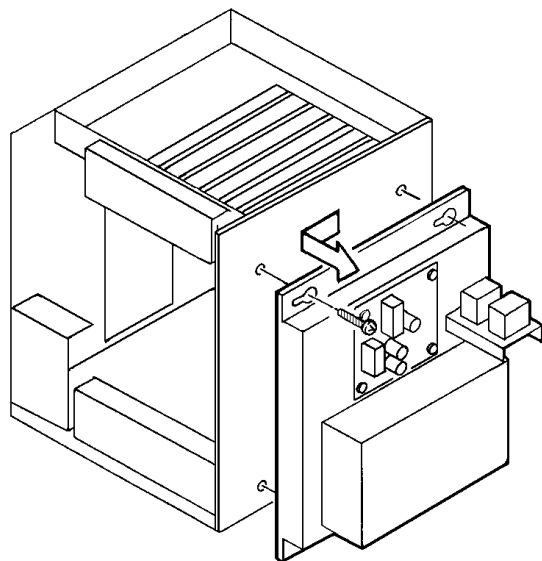

Figure 5-10. DC Power Supply Removal
4. Remove the DC Power Supply Assembly as shown in **Figure 5-10**.